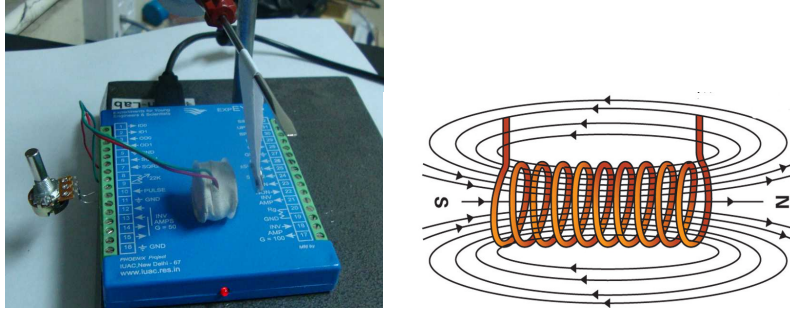

Figure 3.4: (a) Current carrying solenoid repelling a permanent magnet.
- Hang the pendulum near the solenoid as shown in figure 3.4
The magnetic field of a solenoid coil is shown in figure3.4. The direction of field depends on the direction of the current.